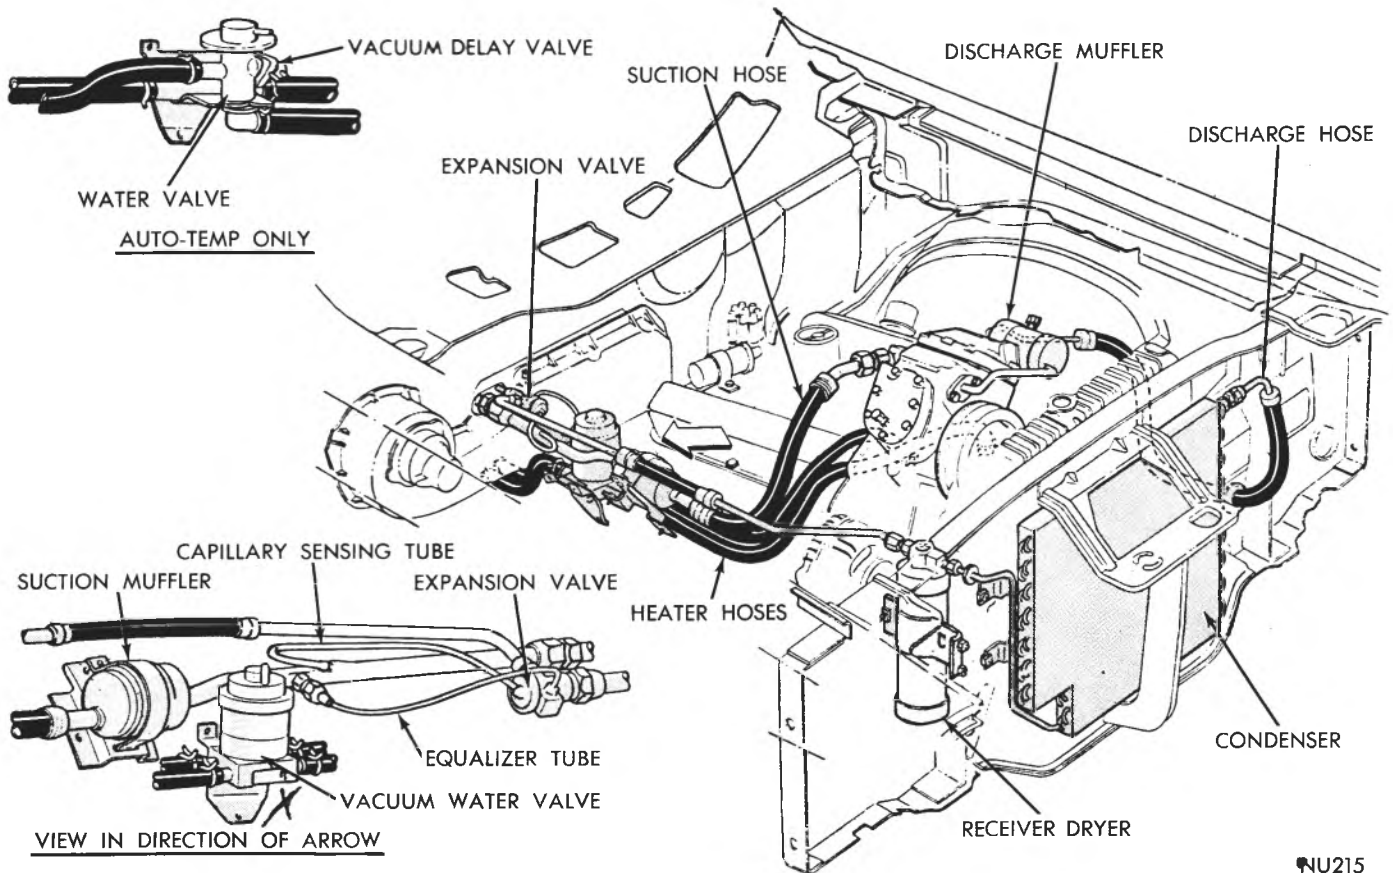

Fig. 48—Air Conditioning and Heater Plumbing—273 and 318 Engines
- (8) Install center air distribution housing, center spot cooler and right spot cooler duct. Plug antenna wire into radio and replace glove box.
- (10) Connect vacuum hoses to actuator on left side of housing.
- (11) Install steering column cover.
- (12) Install left spot cooler duct.
- (13) Connect suction line and expansion valve. Use two wrenches to tighten fittings (Fig. 48).
- (14) Connect heater hoses, fill cooling system and inspect for leaks.
- (15) Install air cleaner and connect battery cable.